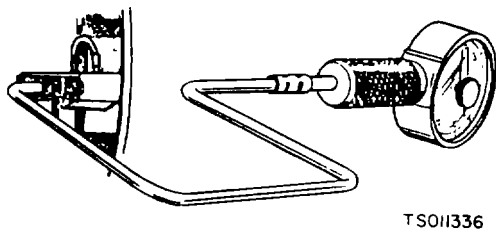

Figure 6-3. Measuring Brush Spring Tension
(2) Measure brush spring tension with a tension meter (fig. 6-3). Push the brush into its holder and take the reading just as the brush slightly projects from the brush holder. On a new brush, the spring tension should be 29 to 39 ounces (822.12 to 1105.61 grams).